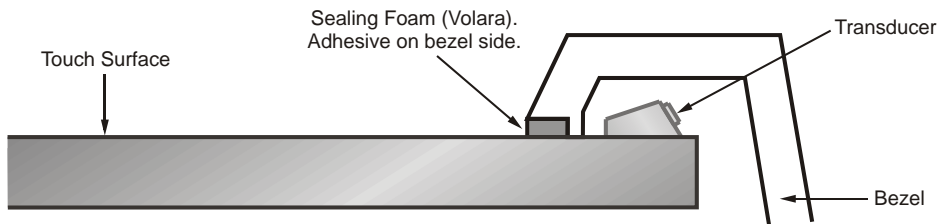

Figure 3-5. Integration with a hard stop
3. A hard stop can be used to control the maximum compression of the seal as shown in Figure 3-5.
- Sealing material dimensions recommended are 2-4 mm wide and 1-2 mm thick. For a foam seal, the foam should compress to a level that is between twenty and fifty percent of its initial height. Uniform compression around the touchscreen is ideal. A hard stop should be molded into your housing to control compression. See the example in Figure 3-5.